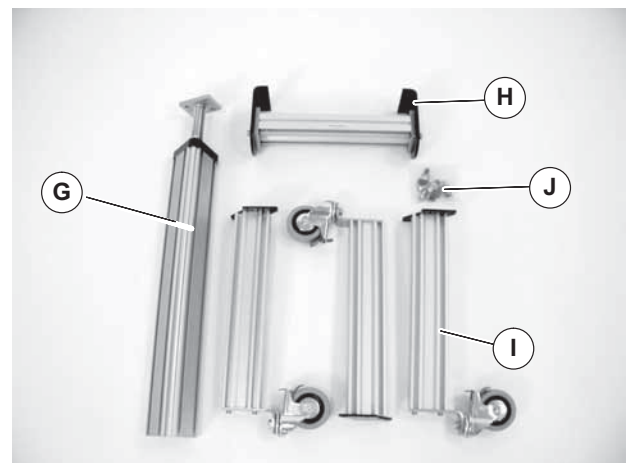

Figure 3
1. Typical components (Figure 3).
- Open hardware pack, single post stand (Figure 3, item J).